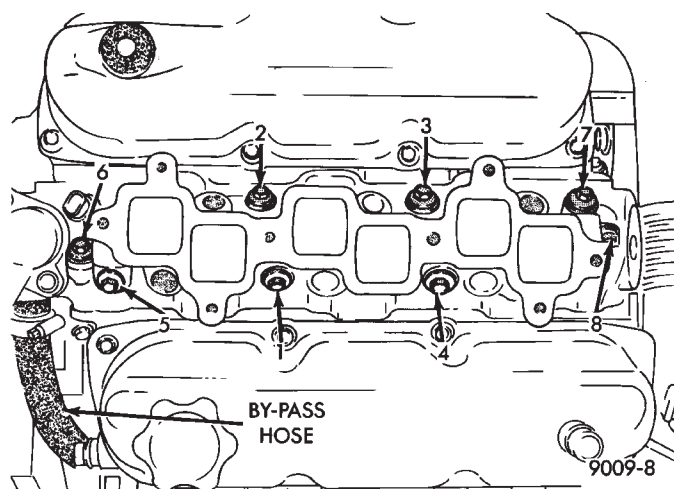

Fig. 14 Intake Manifold Removal and Installation
(4) Install intake manifold and (8) bolts and torque to 1 N•m (10 in. lbs.). Then torque bolts to 22 N•m (200 in. lbs.) in sequence shown in (Fig. 14). Then torque again to 22 N•m (200 in. lbs.). After intake